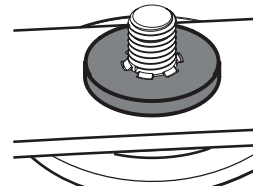

Fig. 45
- Carefully place the flat washer on the spindle shaft. Be sure that the splines at the base of the spindle shaft threads line up with the washer splines (Fig. 45).